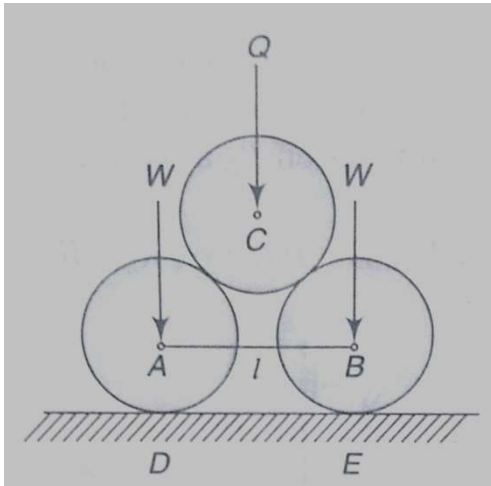

Figure 1.12
18. Two smooth circular cylinders, each of weight $W = 445 \text{ N}$ and radius $r = 152 \text{ mm}$, are connected at their centers by a string AB of length $l = 406 \text{ mm}$ and rest upon a horizontal plane, supporting above them a third cylinder of weight $Q = 890 \text{ N}$ and radius $r = 152 \text{ mm}$ (Figure 1.12). Find the forces S in the string and the pressures produced on the floor at the points of contact D and E